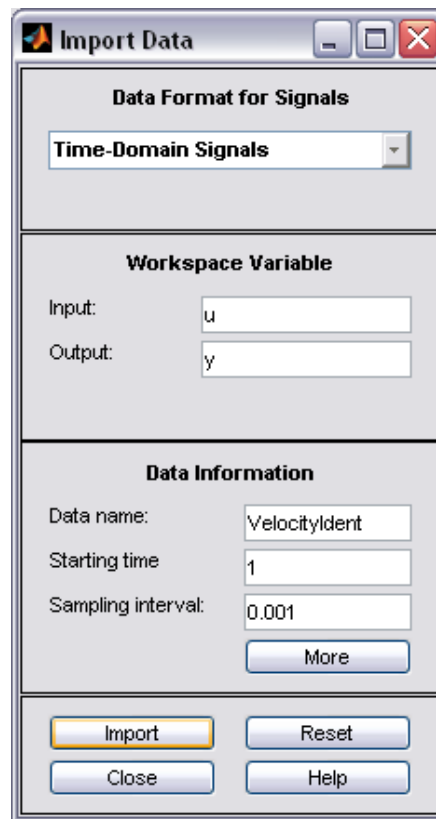

Figure 15 Import data dialogue
- Select the Import Data drop-down tab then Time Domain Data. Fill in the dialogue as shown in Figure 15 then select Import.